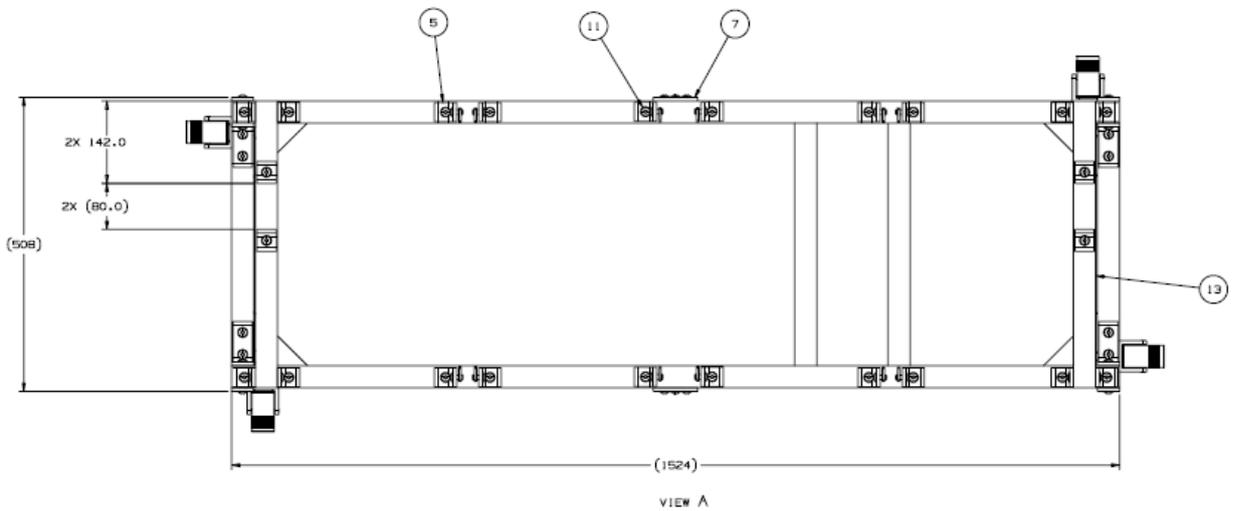

Fig 2: Test stand rail
1. **Test stand rail:** It is stand on which RF couplers will be put for testing. Details are given in fig 2.